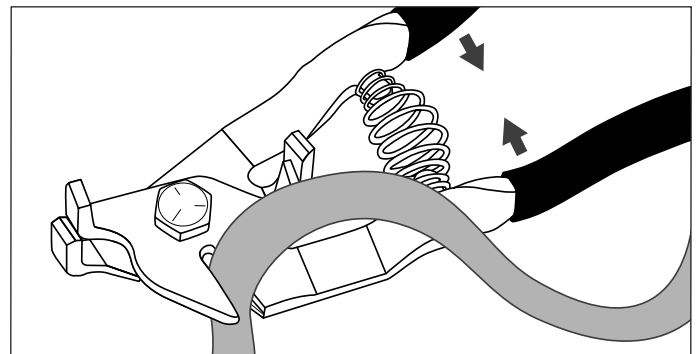

Figure 3
1. Place strapping in trimming slot. (See Figure 3)